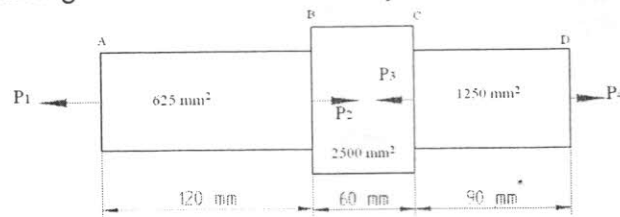

Figure.2(a).
2. a) A member ABCD is subjected to point loads P_1 , P_2 , P_3 , P_4 as shown in Fig.2(a). Calculate the force P_2 necessary for equilibrium, if $P_1 = 45$ kN, $P_3 = 450$ kN and $P_4 = 130$ kN. Determine the total deformation of the member assuming the modulus of elasticity to be 2.1×10^5 N/mm².